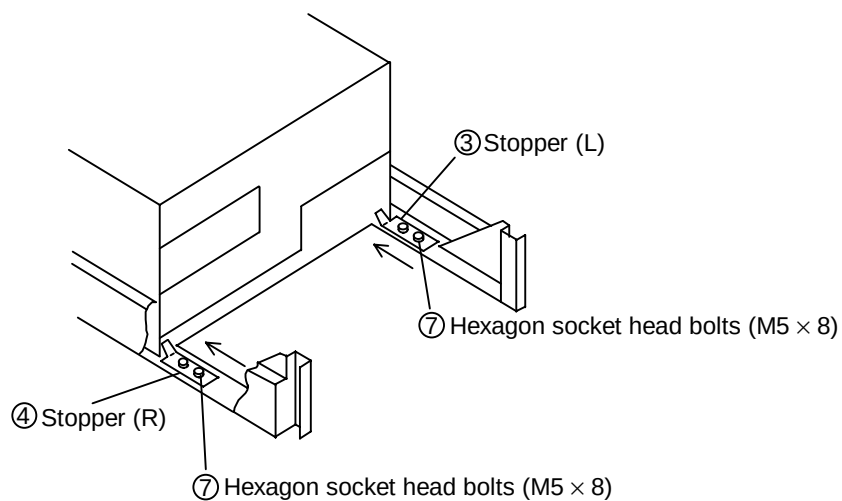

Figure 2.4.7 Securing the Rear Side
2.4.7 Securing the rear side (See Figure 2.4.7.)